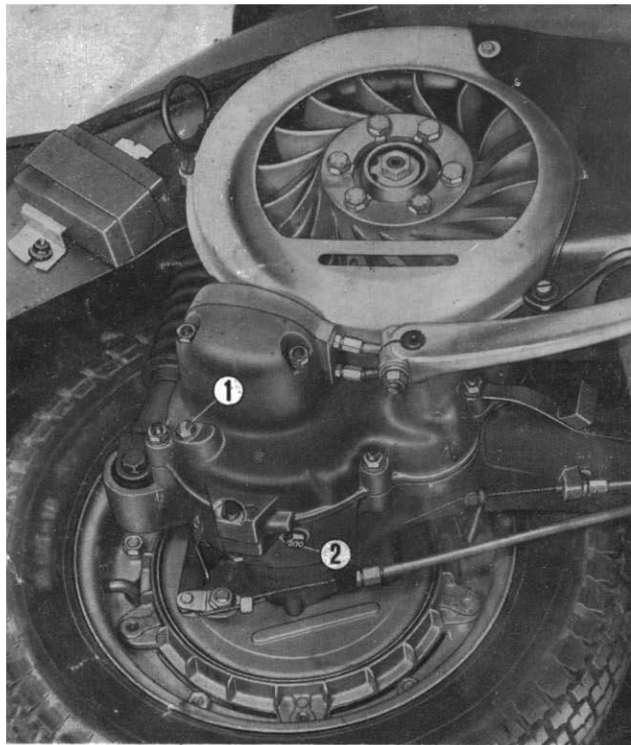

Fig. 16 - Oil filler hole (1); oil draining hole (2).
BEFORE OPERATING THE VEHICLE	Unscrew the plug on the gear box marked « OLIO » (fig. 16) and check that the oil is on a level with the hole when the vehicle is standing upright.
- 1) - Check oil level in gear box (Fig. 16).